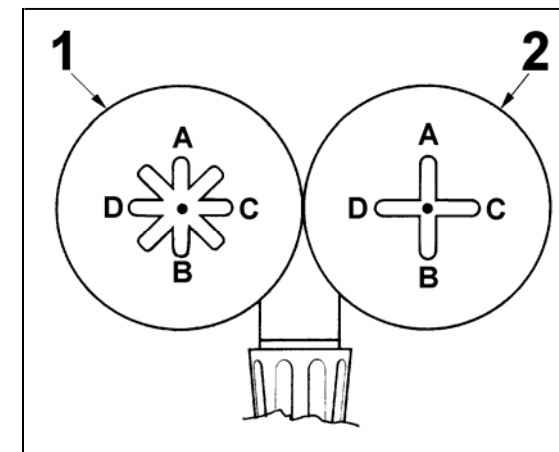

Fig.12/A
7. Operate the control (#3 Fig.12 o #2 fig.12/A) to position **C**: the toolholder carriage moves to the right. Turn the switch to position **D**: the toolholder carriage moves to the left.